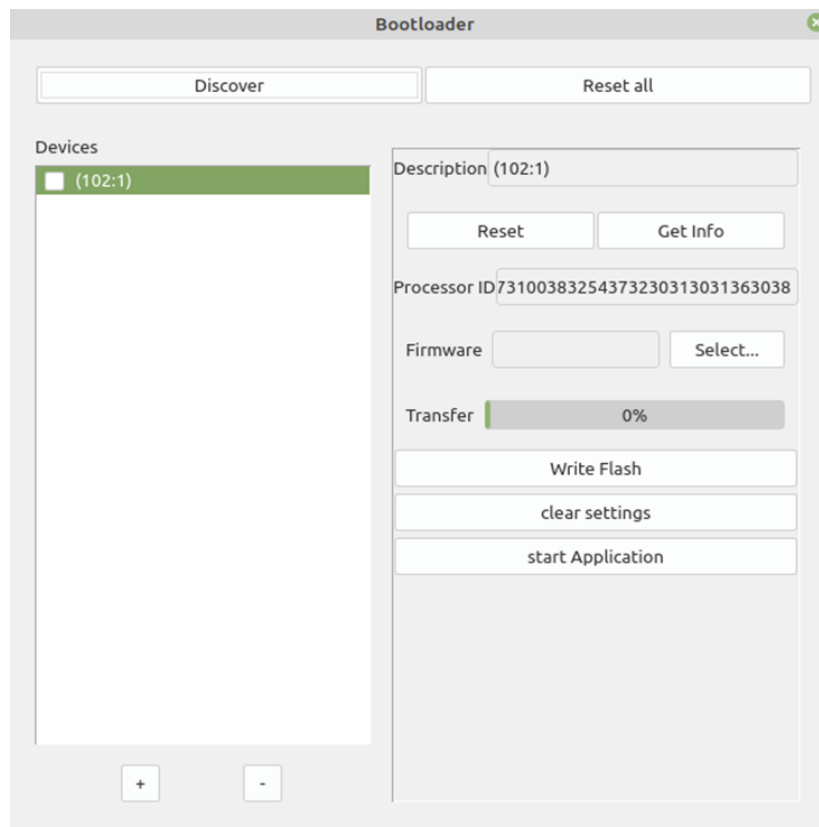

Figure 10: Bootloader section of LumaConf for upgrading the firmware or factory reset of LUMA X
- Click on *Firmware update* within *LumaConf*. This will open the *Bootloader* dialog box (see Figure 10).